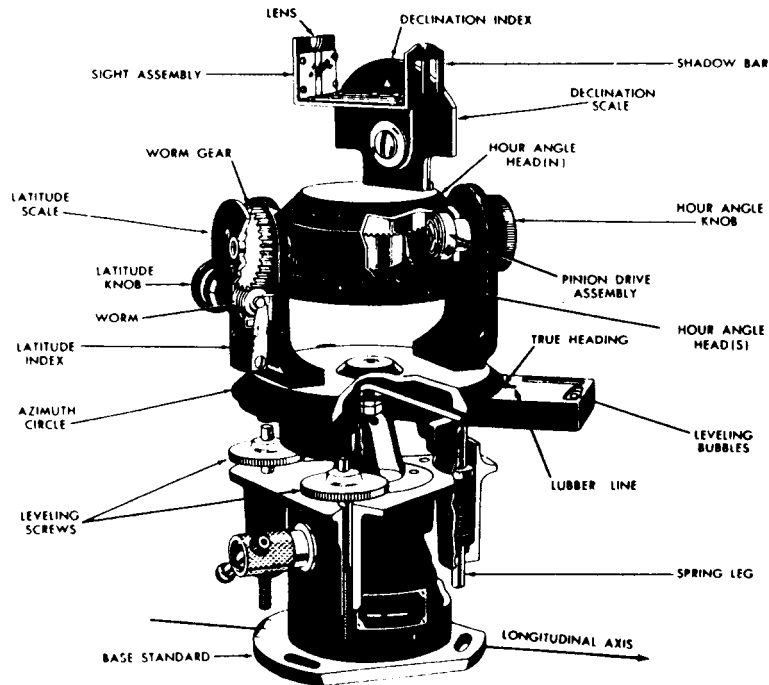

Figure C-1 Astro Compass
1. In the Canadian Arctic, the earth's magnetic lines of force are almost vertical to the surface. As a result, the horizontal component of our planet's magnetism is too weak to provide a reliable heading reference on a magnetic compass. Therefore, other means, independent of magnetism, have to be relied upon. The celestial bodies are ideally suited as an alternate method. The familiar magnetic compass is now replaced by the astro compass. The astro compass gives an accurate indication of TRUE DIRECTION by sighting on the predicted position of a celestial body (see Figure C-1).